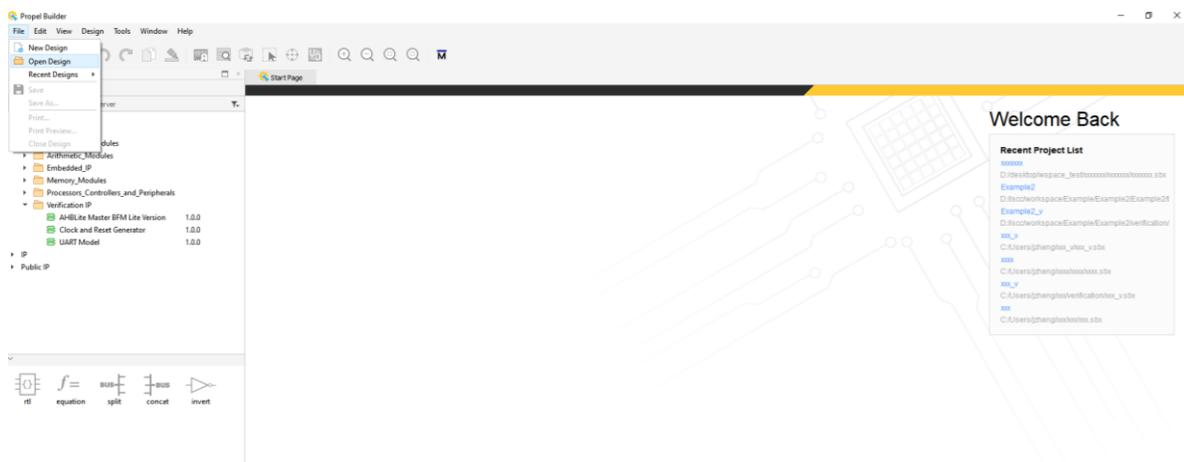

Figure 2.14. Open Design
- To open an existing SoC project, choose **File** >  **Open Design** from Propel Builder GUI menu or click **Open Design** icon  from Propel Builder Toolbar (Figure 2.14).